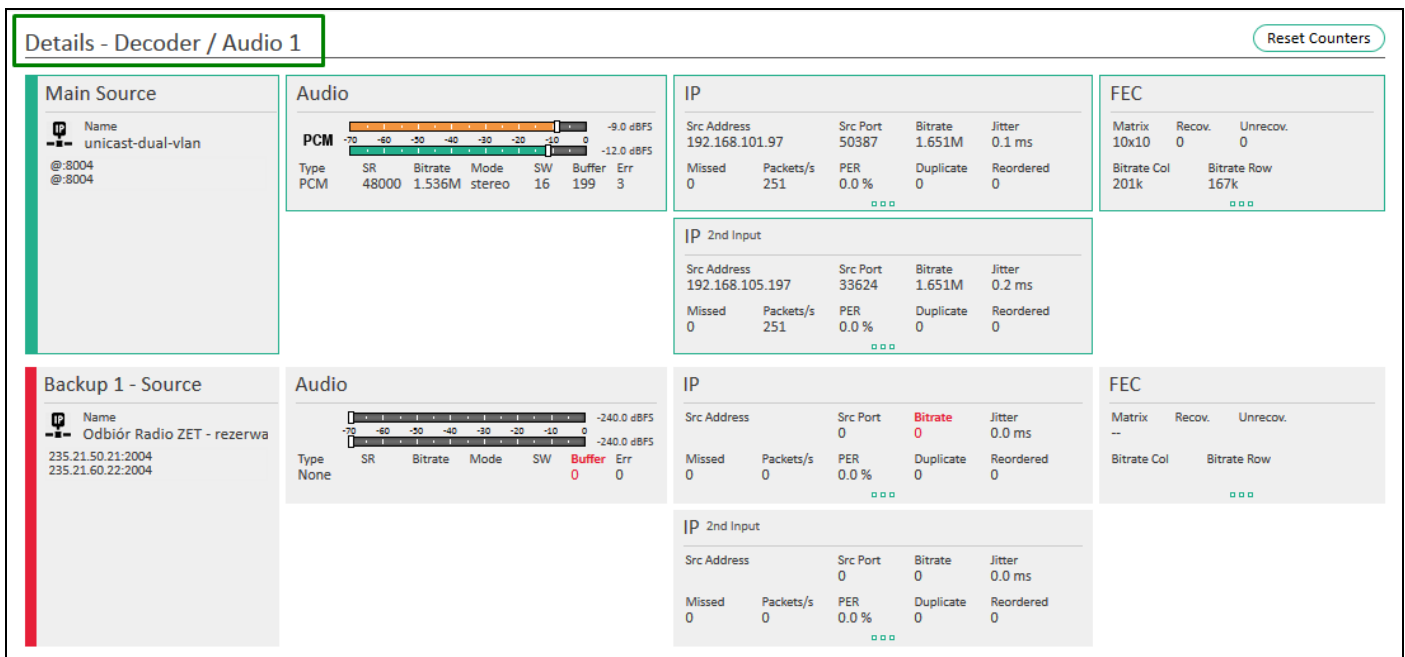

Figure 52: Overview – Status Details of the selected decoder output 1
- ⇒ You can view the current state of the Audio and IP buffer separately for each decoder and encoder under **Information→Overview** in the details view (see Figure 52 on page 71). For more information see section 13.7 “View the Decoder Status” on page 69 and section 13.6 “Define Switch Criteria” on page 67.